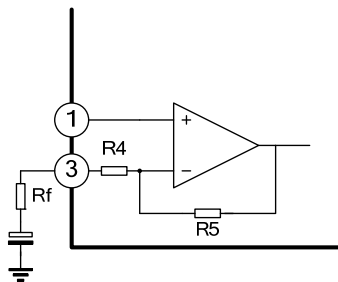

Figure 2
2. Adjustment of the voltage gain (Figure 2)
The voltage gain is fixed at $G_v=40\text{dB}$ by the resistors(R4 and R5) in IC. Its reduction is possible through adding R_f as shown in Figure 2. In this case, the voltage gain is obtained by the following equation: